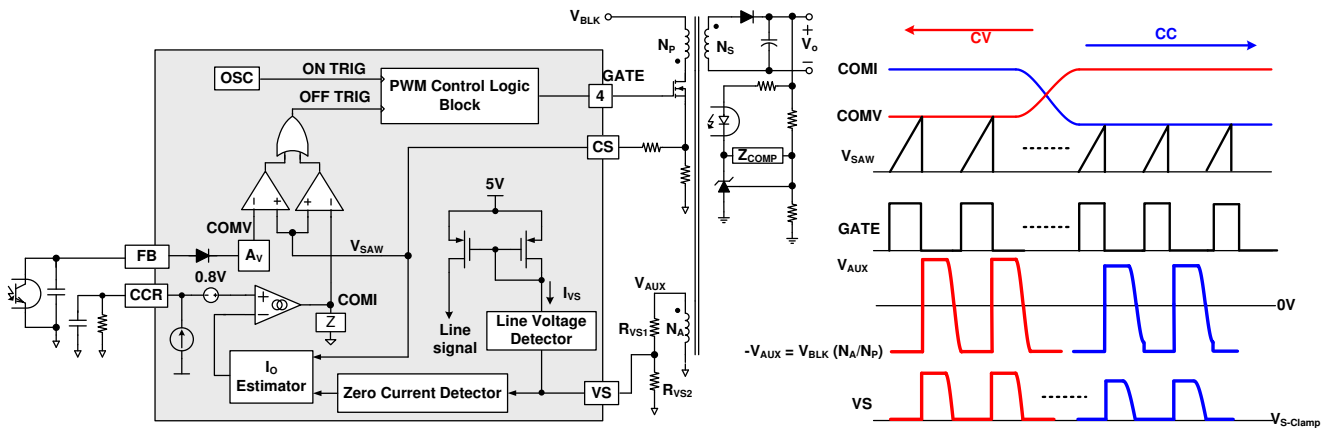

Figure 27 Simplified PWM Control Circuit and PWM Operation for CV/CC Regulation
The FAN604 indirectly senses the line voltage through the VS pin while the MOSFET is turned on, as illustrated in Figure 27. During MOSFET turn-on period, the auxiliary winding voltage,  $V_{AUX}$ , is proportional to the input bulk capacitor voltage,  $V_{BLK}$ , due to the transformer coupling between the primary and auxiliary windings. During the MOSFET conduction time, the line voltage detector clamps the VS pin voltage to  $V_{S-Clamp}$  (0 V), and then the current  $I_{VS}$  flowing out of VS pin is expressed as:
Figure 27 shows a simplified CV / CC PWM control circuit of the FAN604. The Constant Voltage (CV) regulation is implemented in the same manner as the conventional isolated power supply, where the output voltage is sensed using a voltage divider and compared with the internal reference of the shunt regulator to generate a compensation signal. The compensation signal is transferred to the primary side through an opto-coupler and scaled down by attenuator  $A_V$  to generate a COMV signal. This COMV signal is applied to the PWM comparator to determine the duty cycle.
These two control signals, COMV and COMI, are compared with an internal sawtooth waveform ( $V_{SAW}$ ) by two PWM comparators to determine the duty cycle. Figure 27 illustrates the outputs of two comparators, combined with an OR gate, to determine the MOSFET turn-off instant. Either of COMV or COMI, the lower signal determines the duty cycle. During CV regulation, COMV determines the duty cycle while COMI is saturated to HIGH level. During CC regulation, COMI determines the duty cycle while COMV is saturated to HIGH level.
Where Lm is the transformer's primary side magnetizing inductance. Since the output current error is proportional to the line voltage, the FAN604 incorporates line voltage compensation to improve output current estimation accuracy. Line information is obtained through the line voltage detector as shown in Figure 27. ICOMP is an internal current source, which is proportional to line voltage. The line compensation gain is programmed by using CS pin series resistor, RCS\_COMP, depending on the MOSFET turn-off delay, tOFF\_DLY. ICOMP creates a voltage drop, VOFFSET, across RCS\_COMP. This line compensation offset is proportional to the DC link capacitor voltage, VBLK, and turn-off delay, tOFF\_DLY. Figure 29 demonstrates the effect of the line compensation.